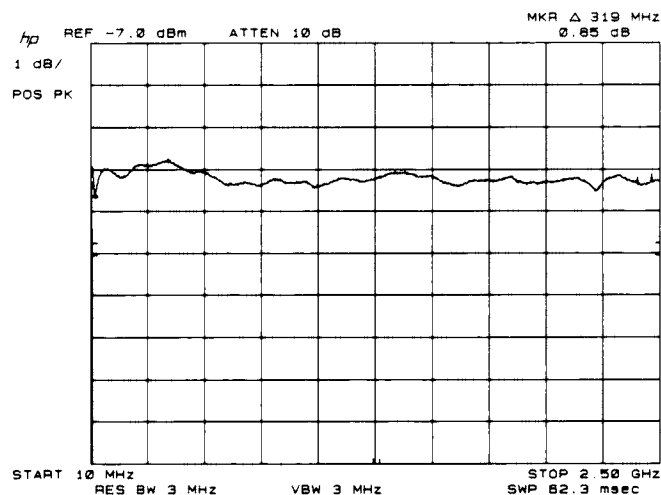

Figure 3-93.
38. On the synthesized sweeper, press **SWEEP (SINGLE)** and wait for a sweep to complete (150 seconds) and the **SWEEP LED** to turn off. As the synthesized sweeper tunes from 10 MHz to 2.5 GHz, the input signal should be displayed as a **TRACE A** response, and the spectrum analyzer frequency response should be displayed as **TRACE B**, as shown in Figure 3-93.